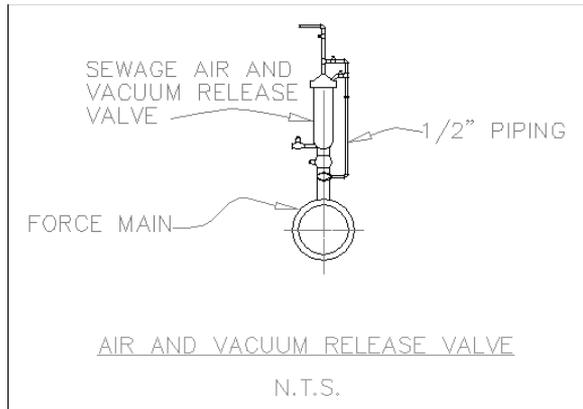

Figure 13-9: An air and vacuum release valve.
2. Save the file as ab13-02.dwg in your AutoCAD Bible folder. This is an air and vacuum release valve, as shown in Figure 13-9.